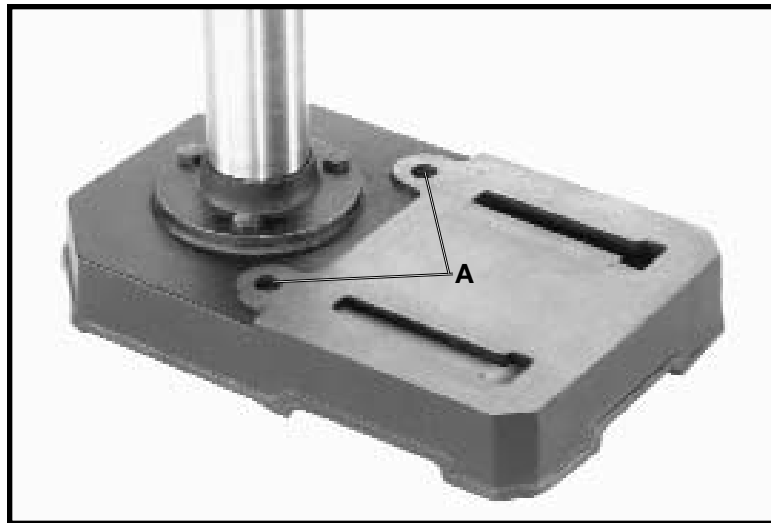

Fig. 10
If during operation there is any tendency for the drill press to tip over, slide or walk on the supporting surface, the drill press base must be secured to the supporting surface with fasteners through the two holes (A) Fig. 10, located in the drill press base.